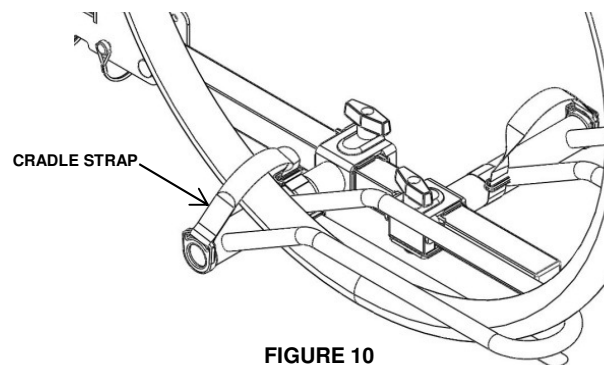

FIGURE 10
5. Loop Wheel Cradle straps over wheels and secure (Fig 10)